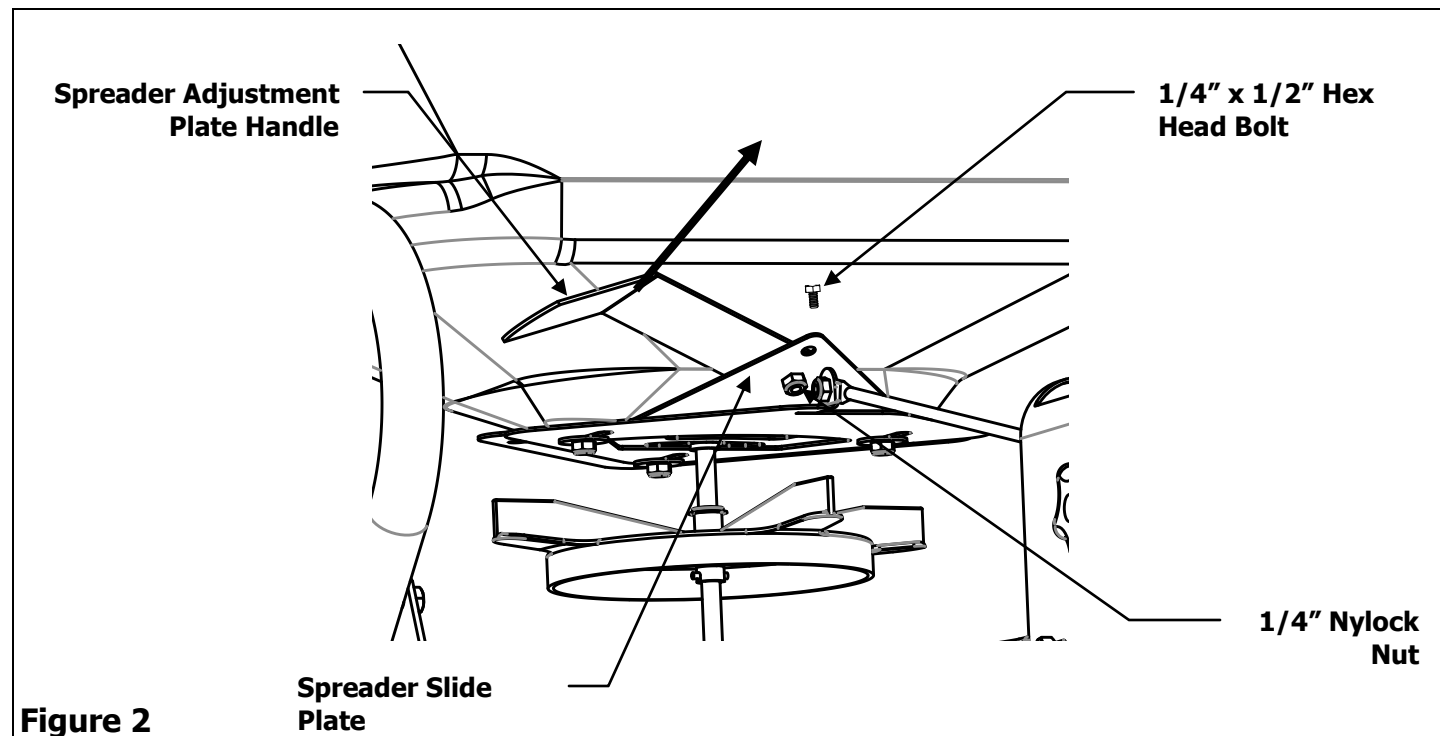

Figure 2
2. Remove the front 1/4" x 1/2" Hex Head Bolts and 1/4" Nylock Nut from the Spreader Slide Plate, turn the Spreader Adjustment Handle until both holes are aligned. Re-insert the Bolt and attach the nut. See Figure 2.
3. Attach the Hitch Arm Assembly and re-insert the Cross Brace inside both sides of the Hitch Arm Assembly. Secure with the two removed 5/16" x 2" Hex Head Bolts and two 5/16" x 3" Hex Head Bolts then reattach the four 5/16" Nylock Nuts. See Figure 2.